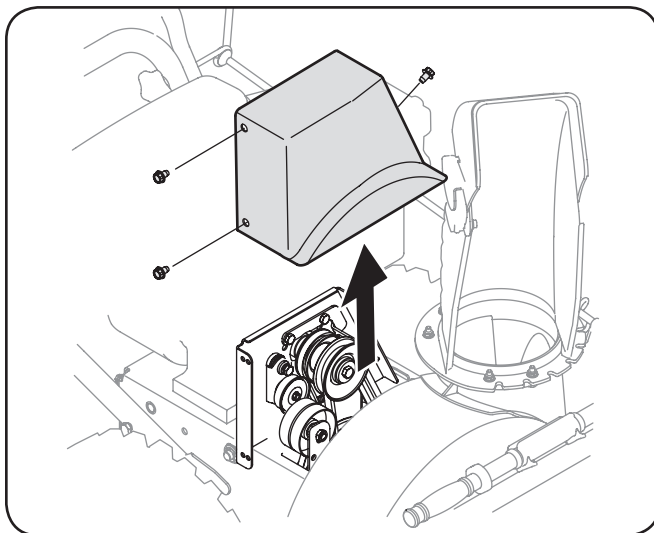

Figure 7-2
3. Remove the plastic belt cover on the front of the engine by removing the three self-tapping screws. See Figure 7-2.